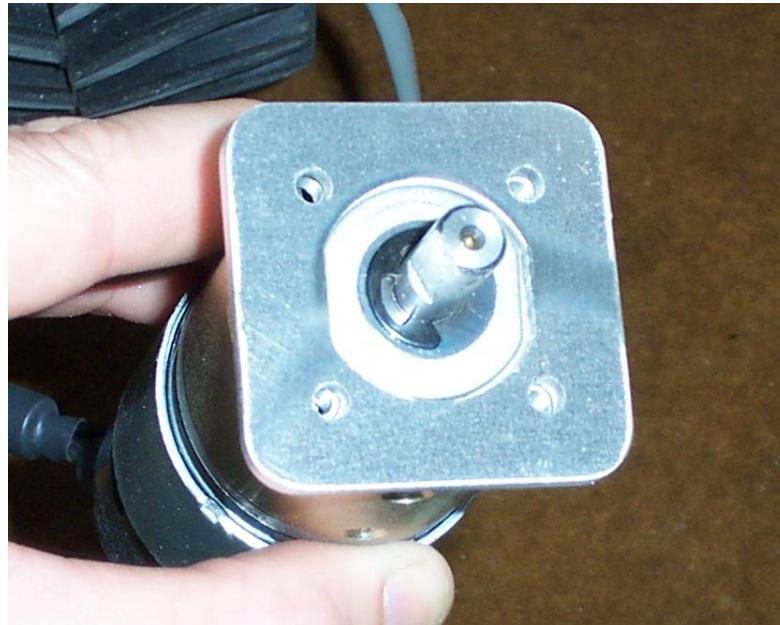

Figure 20: Motor Spacer Plate
1. The motors need a motor spacer plate between them and the slots cut out in the ATR. Refer to Figure 20.